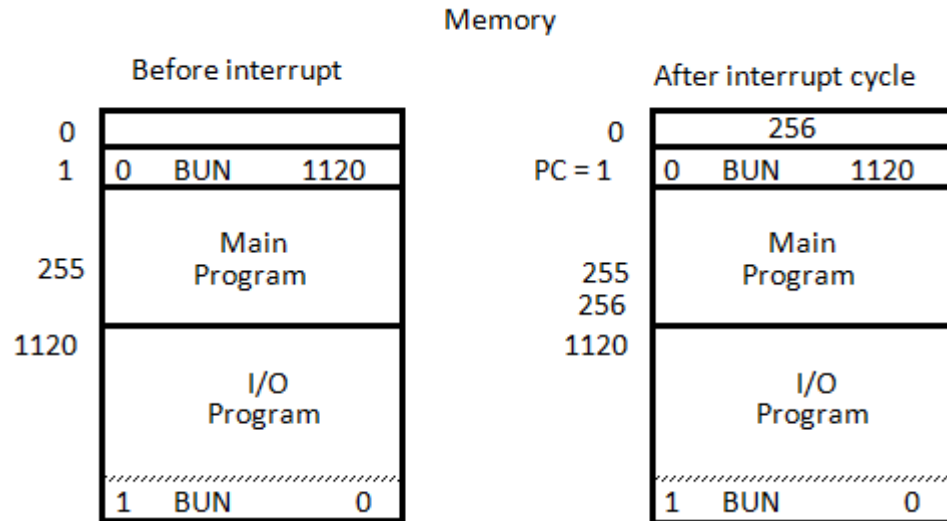

Figure 2.14: Demonstration of the interrupt cycle
- An example that shows what happens during the interrupt cycle is shown in Figure 2.14: